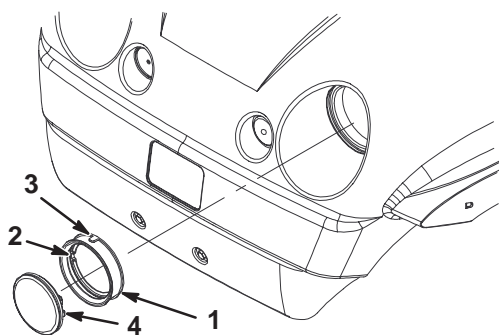

Figure 43
4. Remove the rubber seal from around the headlight (Fig. 43). Discard the headlight.
5. Align the notch on the inside of the seal with the notch on the new headlight (Fig. 43). Slide the seal onto the headlight until the seal is firmly in place.